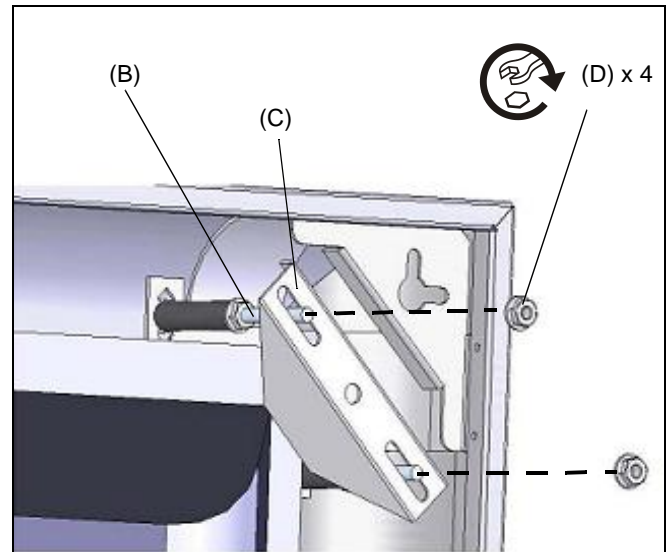

Figure 3
7. Install clamp brackets (C) over the bolt ends (B). (See Figure 3)